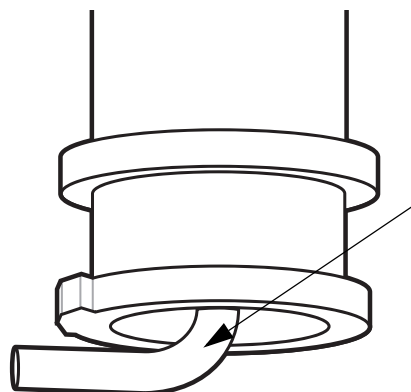

Figure 3-9 *Rotation Limiting Tab*
- ✓ **NOTE** There is a rotation limiting tab on the top and bottom surfaces of the pole extension (see Figure 3-9). These need to be fitted one side or the other of the mating projection in the rear cover. If not, there may be difficulty replacing the existing front cover.